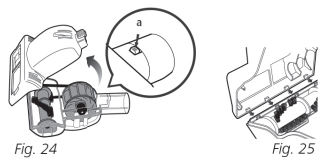

Fig. 24
- Slide the locking latch (a) forward and gently tilt brush housing upward to remove. (Fig. 24)